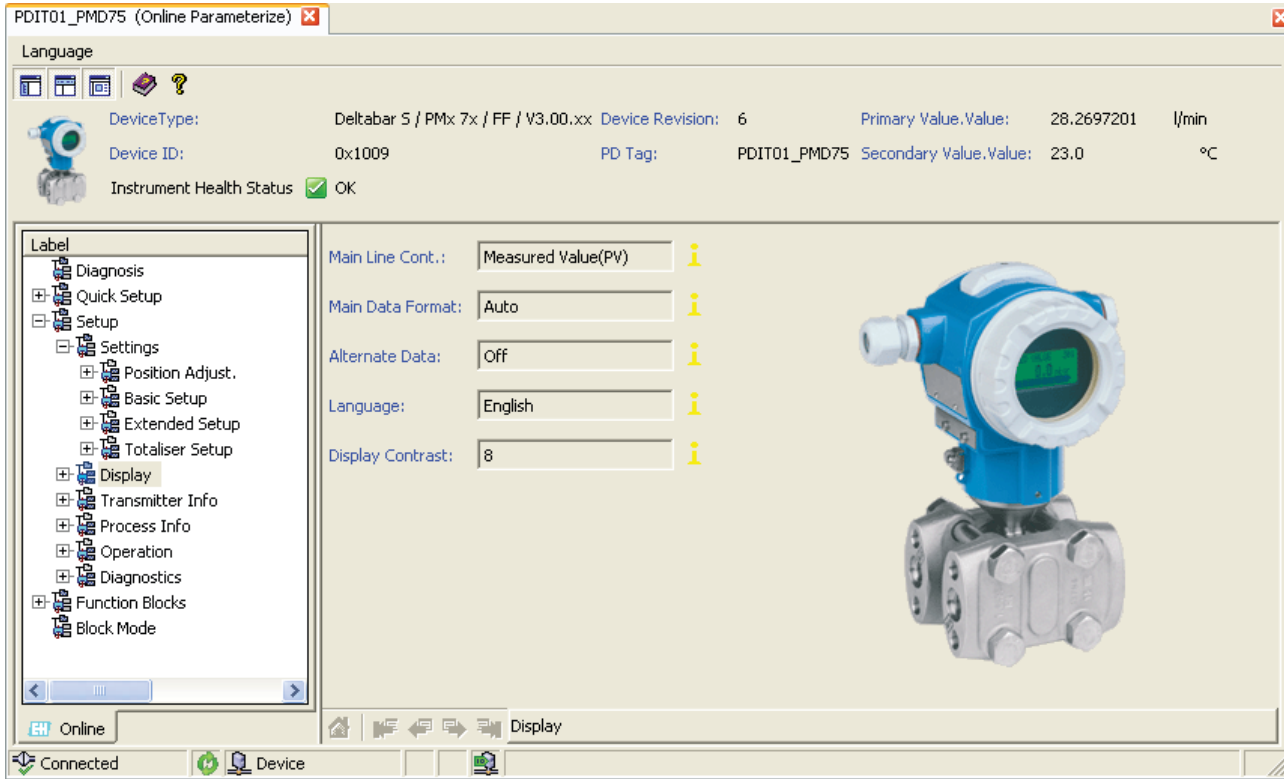

Figure 2-28. DISPLAY screen.
45. Open the *Setup ▶ Display* screen (Figure 2-28). Make sure *Main Line Cont.* is set to *Measured Value (PV)*. If not, set the *DISP* block to *OOS* mode, change *Main Line Cont.* to *Measured Value (PV)* and put the *DISP* block back to *Auto* mode.